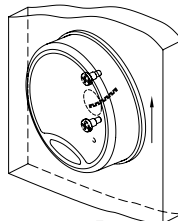

Fig. 1
1. Remove Entry Keypad. Slide it up and carefully pull it away from the vault door. (Fig.1)